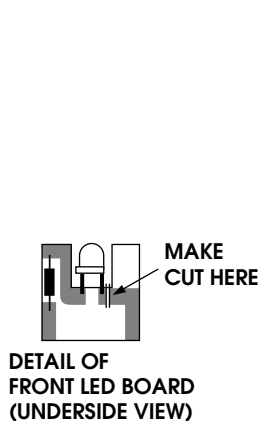

Fig. 1
- Lay the front light board out in front of you, parts side up as shown (Fig. 1). With a sharp hobby knife make a cut in the circuit trace as shown (Fig. 1).